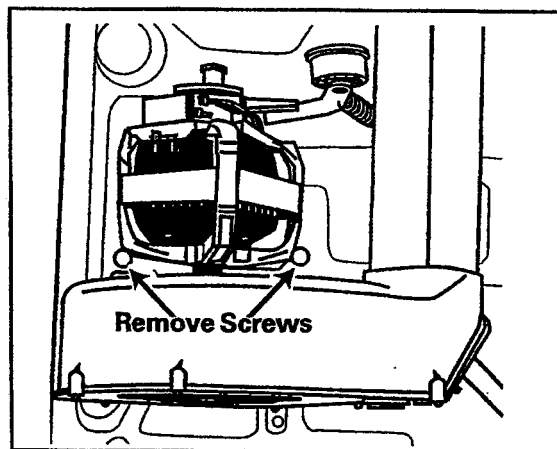

Figure 2-91
9. Remove two screws securing motor to base frame. An extension is required to reach the screws. Screws are behind the blower housing (*Figure 2-91*).